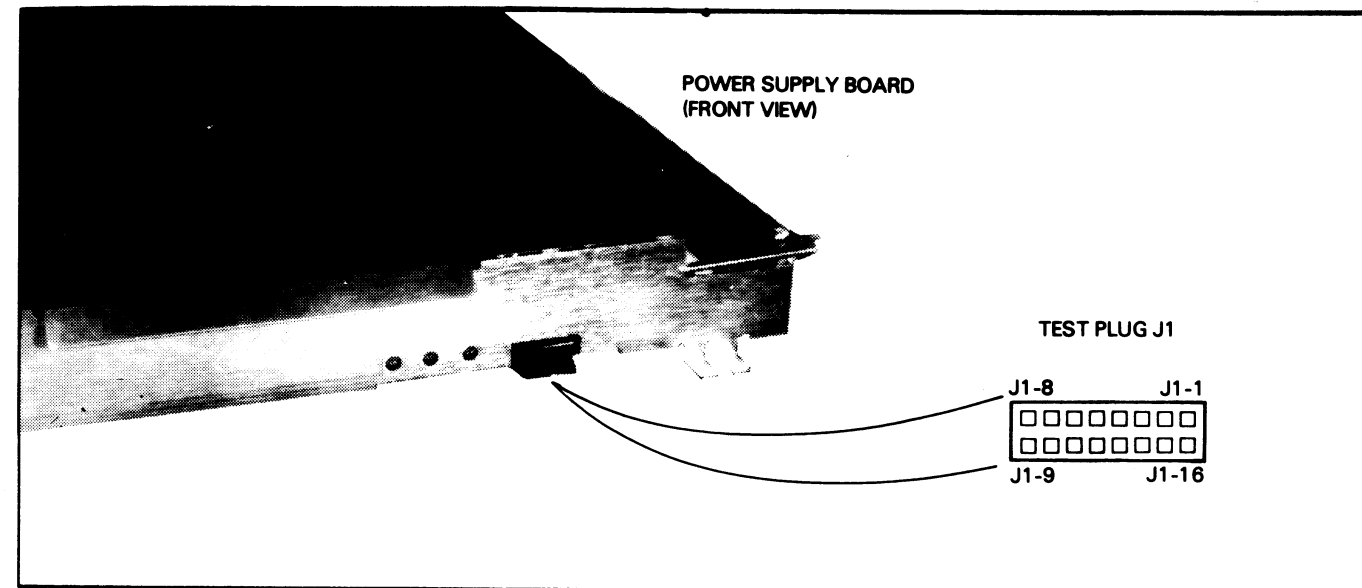

Figure 6.8 Test Plug
2. Check the +5V voltage at test plug J1-15 (see Figure 6.8). If +5V is between 5.10V and 5.20V, go to "Final Checkout"; otherwise, continue the checkout.
- If -11V is NOT between -11.0V and -12.5V (-30VNR not ok), check the VREF at test plug J1-14 (see figure 6.8). If VREF is 5.8V, replace the VNR unit; otherwise, replace the power supply board.
- If -11V is between -11.0V and -12.5V (-30VNR ok), check the HVS voltage at test plug J1-4 (see Figure 6.8). If HVS is greater than 2.9V, replace the power supply board; otherwise, replace the VNR unit.
6. Recheck the +5V voltage at test plug J1-15 (see Figure 6.8). If it is between 5.10V and 5.20V, go to "Final Checkout"; otherwise, try replacing the internal cable (wiring harness). If this does not work, get help from DGC Field Service.
- Make sure the LOCK switch is in the UNLOCK position. If the fans still do not stop, check the PWR FAIL voltage at test plug J1-3 (see Figure 6.8).
- If PWR FAIL is less than 0.4V, check PON at test plug J1-11 (see Figure 6.8). If PON is less than 0.4V, replace the VNR unit; otherwise, replace the power supply board.